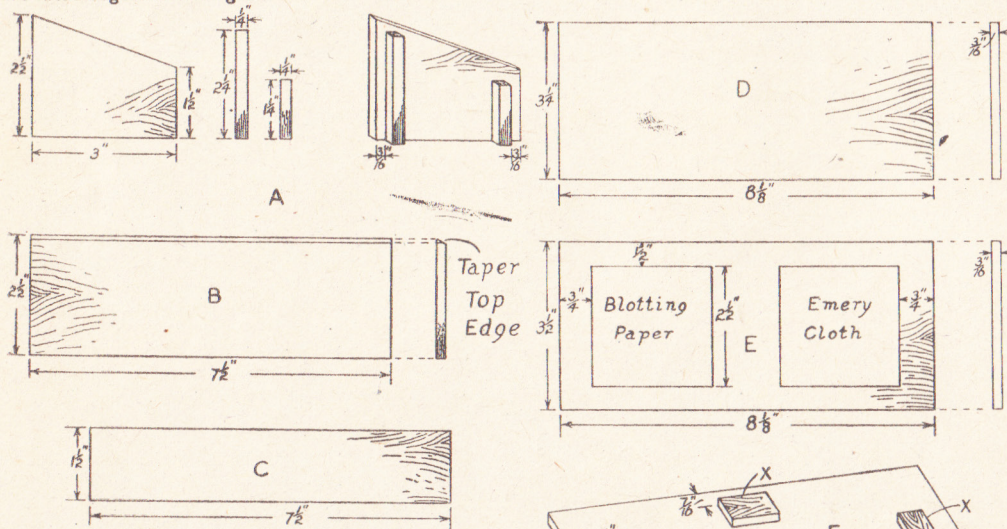

Fig. 3—Details of the sides, back and front
The front for the box is simply a piece of plywood cut $7\frac{1}{2}$ ins. long by $1\frac{1}{2}$ ins. wide, as indicated in (C) Fig. 3. The parts thus cut are well smoothed up with glasspaper, and then fixed together with glue and allowed to set hard, after which all surplus glue showing can be carefully scraped off.
Commence on the sides, details of which are given in (A) Fig. 3. Cut two pieces 3 ins. long by $2\frac{1}{2}$ ins., tapering the top edge down to $1\frac{1}{2}$ ins., as clearly indicated. Cut two pieces $2\frac{1}{2}$ ins. by $\frac{1}{2}$ in., and two pieces $1\frac{1}{2}$ ins. by $\frac{1}{2}$ in., and glue